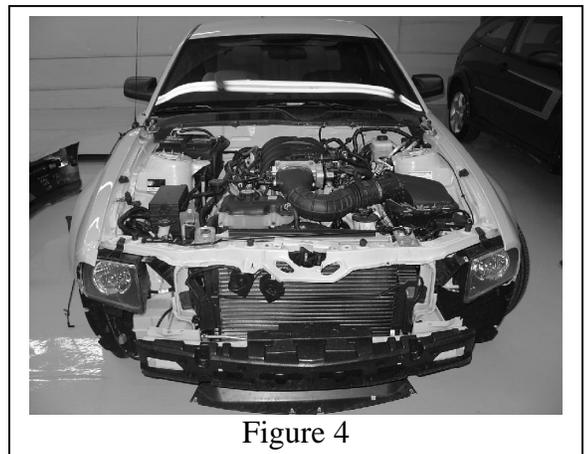

Figure 4
4. Lift hood straight off the vehicle, with the help of a partner. **(FIGURE 4)**